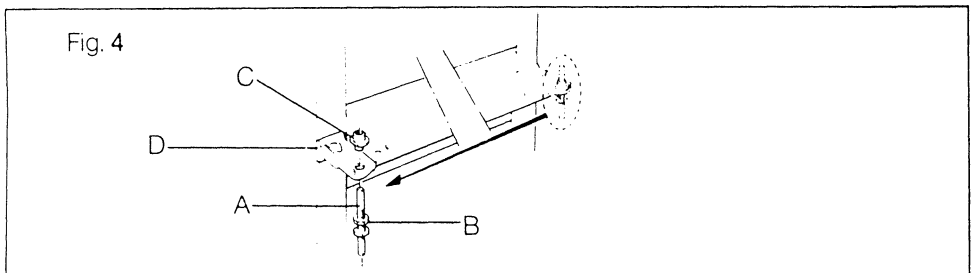

Fig. 4
5. Loosen the lock-nut (B, fig. 4) on the centre hinge spindle and unscrew the spindle (A, fig. 4) from the collared nut (C, fig. 4). Transfer the spindle and collared nut to the opposite hinge bracket (D, fig. 4), tighten the lock nut.